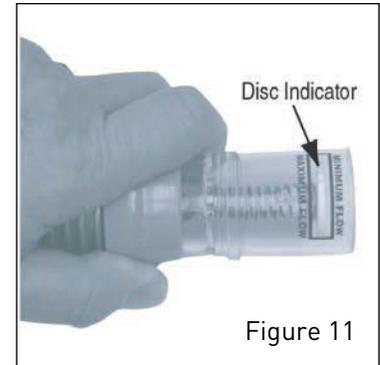

Figure 11
4. Turn the regulator valve adjustment knob clockwise to increase flow or counterclockwise to decrease flow, until the disc indicator in the flow gauge settles between "Maximum" and "Minimum" flow. See Figure 11 .